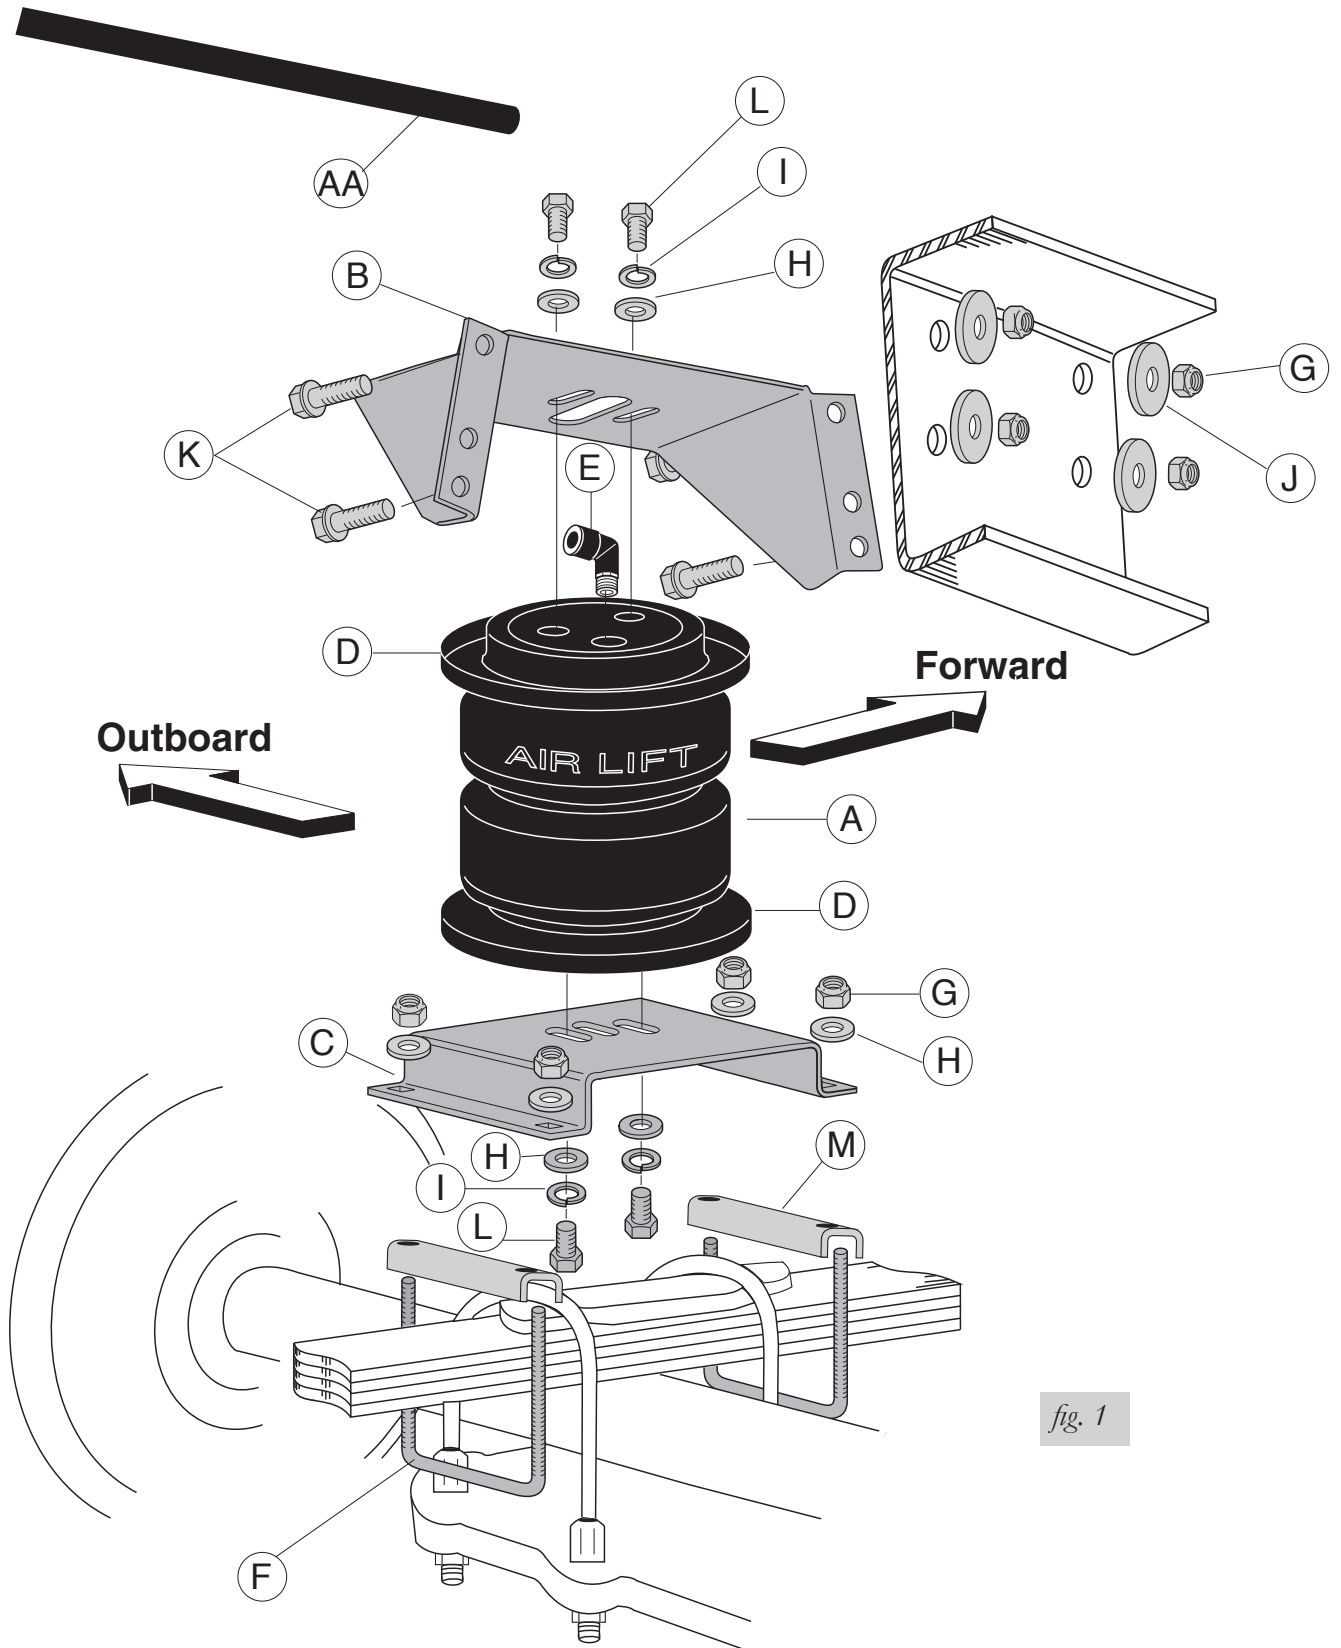

fig. 1
1. Set a roll plate (D) on both ends of the air spring (A). The radiused (rounded) edge of the roll plate will be towards the air spring so that the air spring is seated in both roll plates (Figure 1).
2. Install a 90° swivel air fitting (E) finger tight plus 1 1/2 “ turns (Figure 1). Do not overtighten.
3. Place the upper bracket (B) onto the top of the bellow and roll plate with the legs facing down.
4. Set the air spring on the lower bracket (C) aligning the two holes in the base of the air spring with the two outer slots in the top of the lower bracket (Figure 1).
5. Loosely attach the upper bracket to the assembly using flat washers (H), lock washers (I), and hex head bolts (L). Remember that the legs face down (Figure 1).
6. Loosely attach the lower bracket to the assembly using flat washers (H), lock washers (I), and hex head bolts (L). See Figure 1.
1. Set the assembly over the center spring retainer. Install two spacers (M) between the lower bracket and the spring (Figure 1).
- Using the upper bracket as a template, center punch and drill one  $\frac{3}{8}$ " locator hole through the frame (Figure 1).